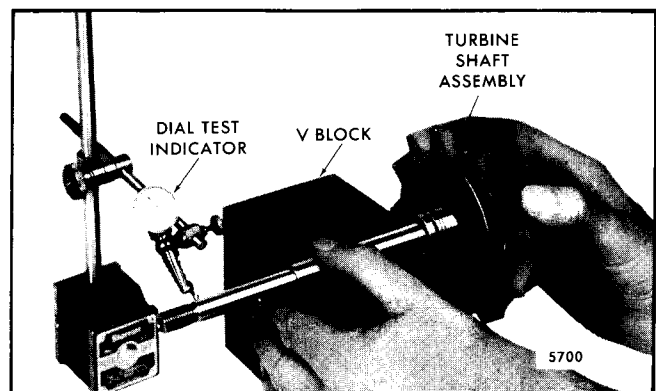

Fig. 12 - Measuring Concentricity Between Large and Small Turbine Shaft Diameters
- d. Measure the concentricity between the large and small turbine shaft diameters with a dial test indicator and vee-block (Fig. 12). Limit of eccentricity is .0006" total indicator reading. Replace if the measurement is excessive.